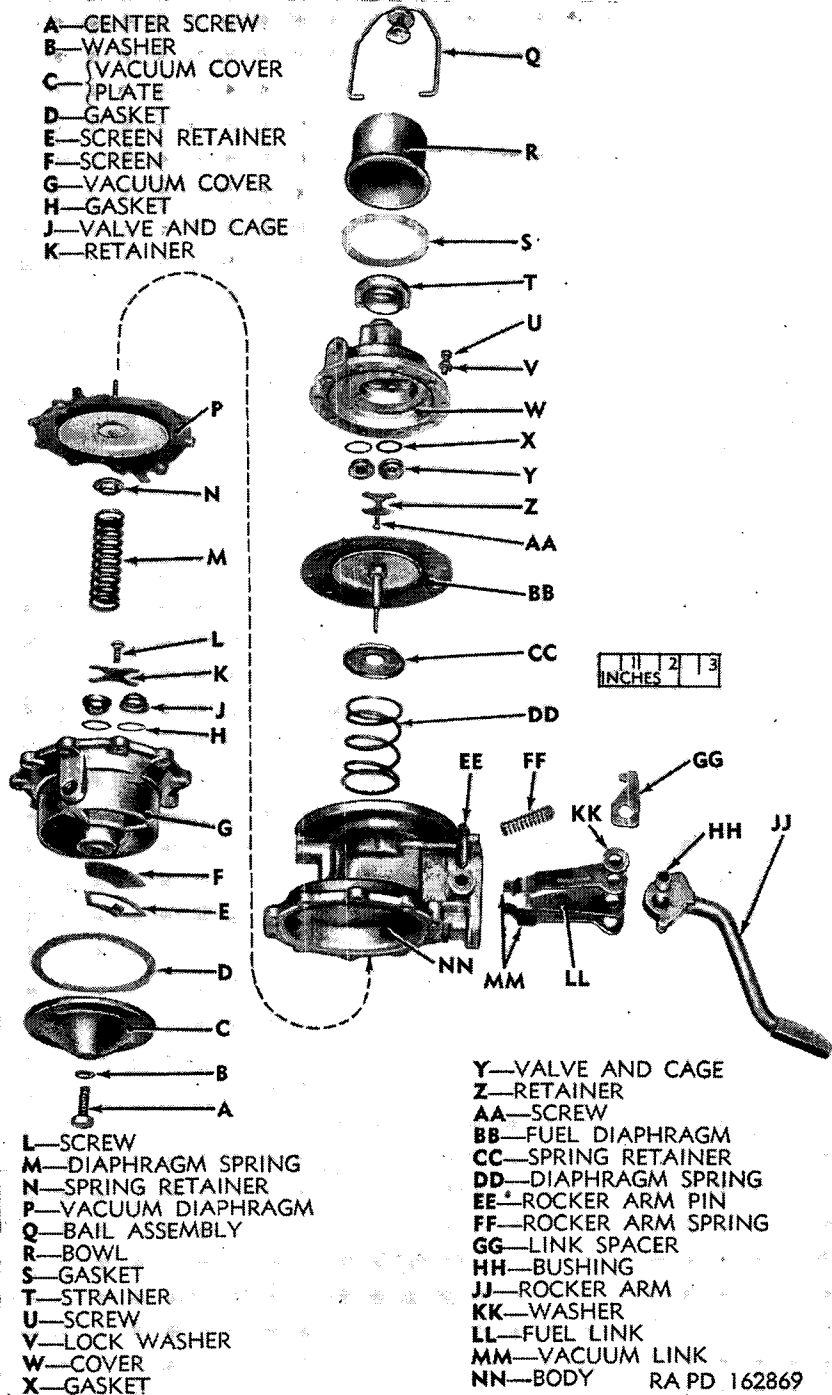

Figure 43. Fuel and vacuum pump—disassembled (typical series AX construction).
(fig. 43)
a. Assemble Body (fig. 43).
- (1) Assemble link spacer over fuel link. Place one vacuum link on each side of fuel link. The hook ends of the vacuum link should come together so that they surround the fuel link. All link hooks should point in the same direction. Place assembly of links and spacer between holes of rocker arm with one spacer washer on outer side of each vacuum link. Slide rocker arm bushing through holes in rocker arm, spacer washers, and links.
- (2) Stand the pump body on the bench, fuel flange down. Set the rocker arm spring in position with one end over the cone cast into the body. Slide rocker arm and link assembly into body. Outer end of rocker arm spring slips over the projection on link spacer; the open end of all link hooks must point toward vacuum flange. Aline rocker arm bushing hole with hole in body and drive in rocker arm pin. Place washer over small end of pin and retain by spreading end of pin.
- (3) Soak fuel diaphragm in clean kerosene. Fuel oil may be used, but do not use shellac or sealing compound. Place fuel diaphragm spring and its retainer over body pull rod well and install the diaphragm assembly. Retain diaphragm by hooking to fuel link.